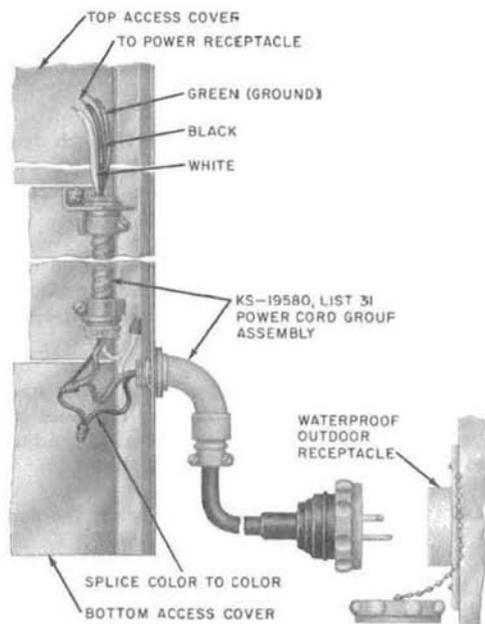

Fig. 19—KS-19580, List 31 Cable and Cord Group for Ground Level Entrance
- 3.11 For ground level entrance with plug-in features, use KS-19580, List 31 power cord group and install per Fig. 19.